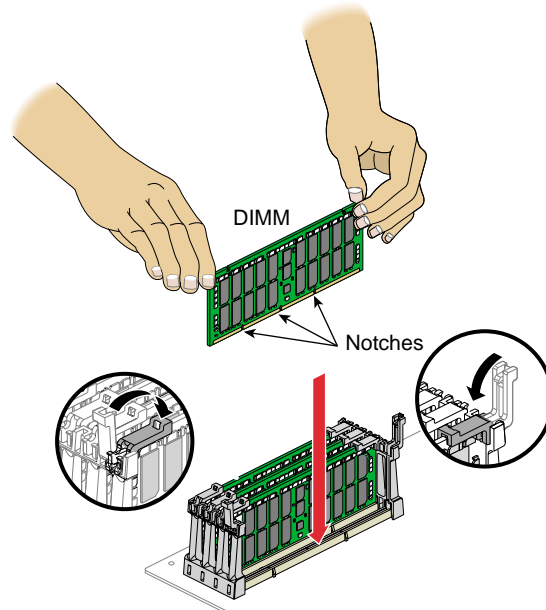

Figure 4-12 Inserting a DIMM
6. Install the DIMM, as follows (refer to Figure 4-12):
- c. Align the three notches in the bottom edge of the DIMM with the keyed socket, as shown in Figure 4-12.
- e. Gently push the plastic ejector latches down to secure the DIMM, as shown in Figure 4-12. When the DIMM is fully seated in the connector, the ejector latches snap into place.